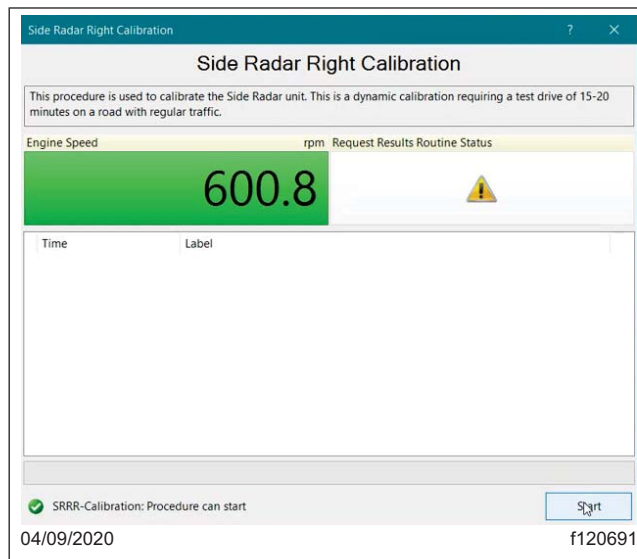

Fig. 30, Initiating Calibration Drive
- Select 'Start' to initiate the calibration. See Fig. 30.